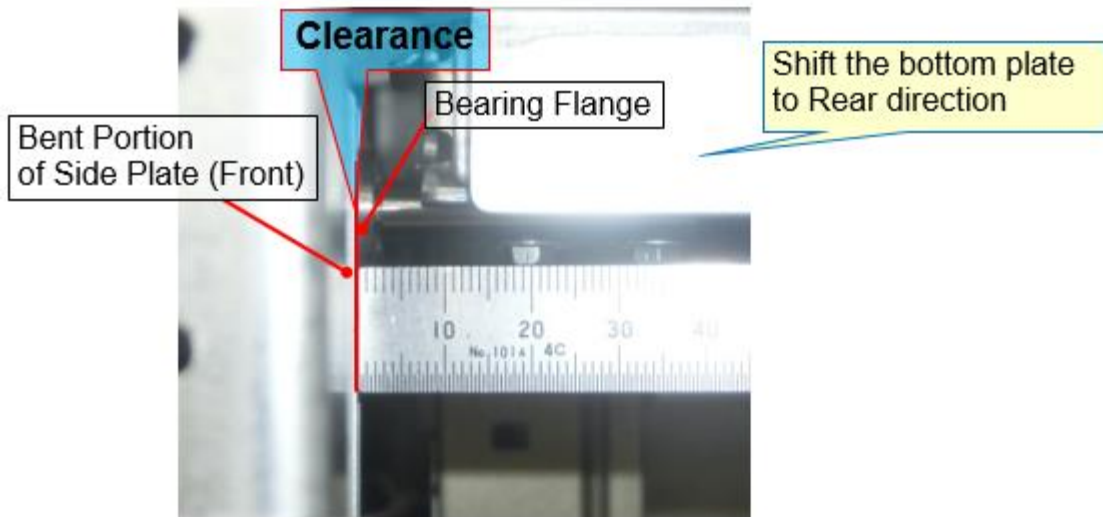
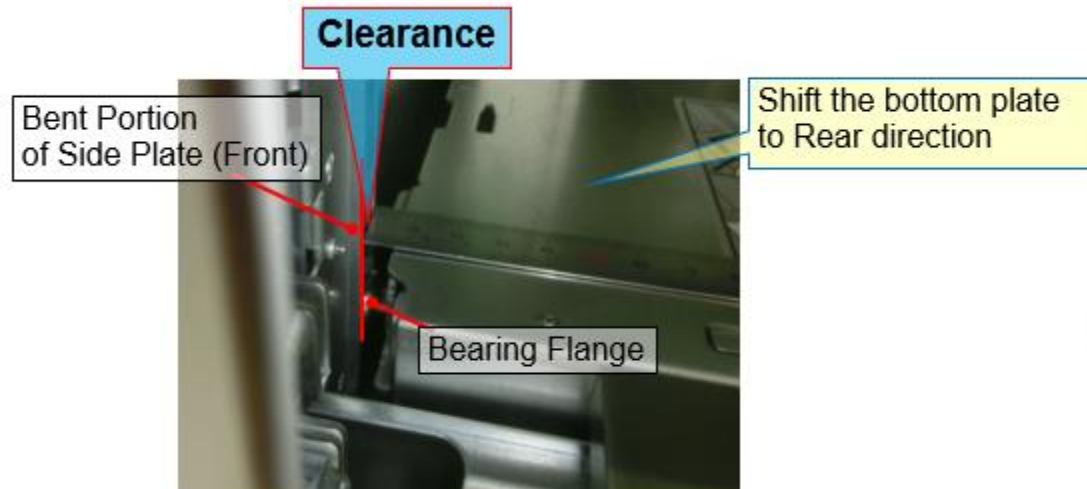

Fig. 10
Fig. 11
2. Measure the clearance between the bent portions of the side plate and the bearing flange by shifting the bottom plate to the rear side (both the Upper (Fig. 10) and Lower (Fig. 11) positions).
- b. Clearance (Fig. 10, 11): **0.5 – 3.0 mm**